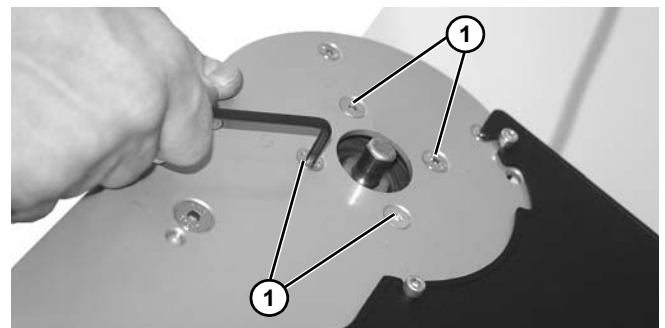

Figure 125
4. Remove four screws (Figure 125, item 1) on side of drive spindle.